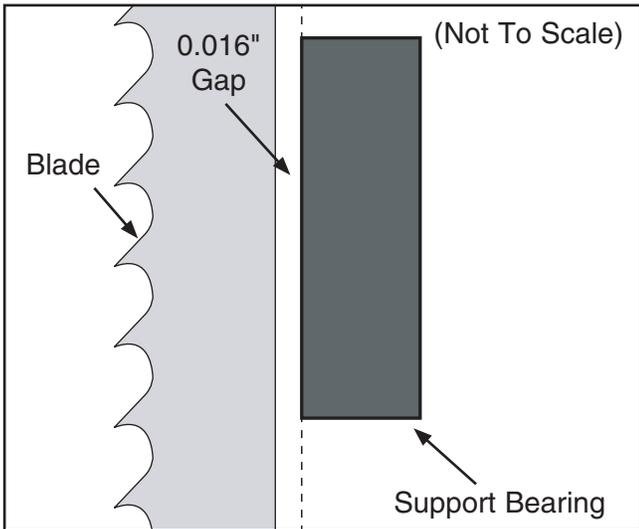
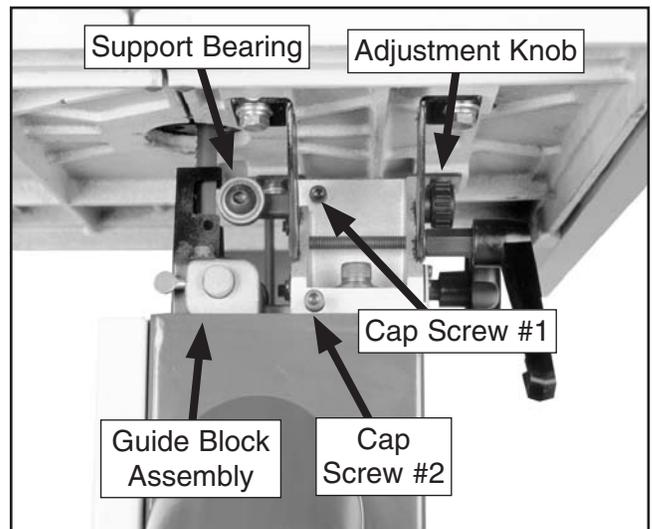

Figure 29. Correct gap between the support bearing and the blade.
Figure 30. Side of lower blade guide.
- Slide the support bearing forward against the back edge of the blade and then back the bearing off approximately 0.016" as shown in **Figure 29**. Tighten cap screw #1 to secure the bearing in place.
- Loosen cap screw #1 shown in **Figure 30** and rotate the adjustment knob to slide the support bearing away from the blade.
5. Loosen cap screw #2 shown in **Figure 30** and adjust the guide block assembly until the front edge of the guide bearings are aligned $\frac{1}{16}$ " behind the gullet line as shown in **Figure 32**. Retighten cap screw #2.
7. Turn the adjustment knob shown in **Figure 30** to slide the support bearing forward against the back edge of the blade and then back the bearing off approximately 0.016" as shown in **Figure 29**. Tighten cap screw #1 to secure the bearing in place.